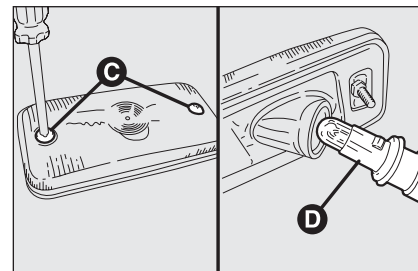

fig. 33a
- unscrew both retaining screws **C**-fig. 33a and remove the light;